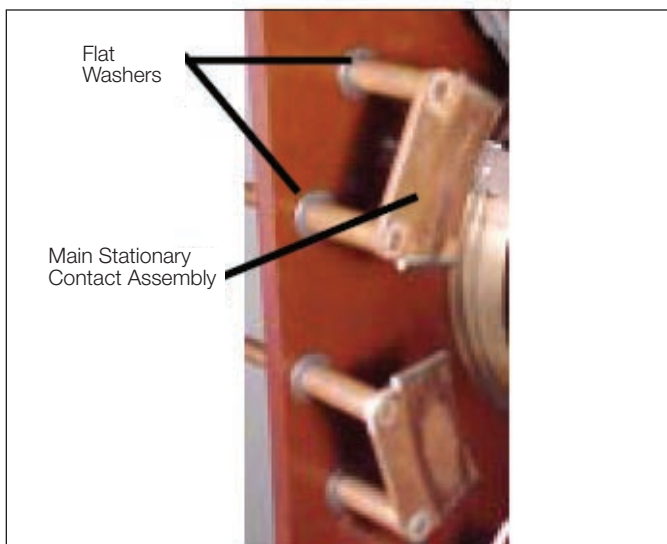

Figure 3.
- Remove the stationary contact from the insulating board. There are two (2) steel flat washers between the contact assembly and the insulating board. See Figure 3.